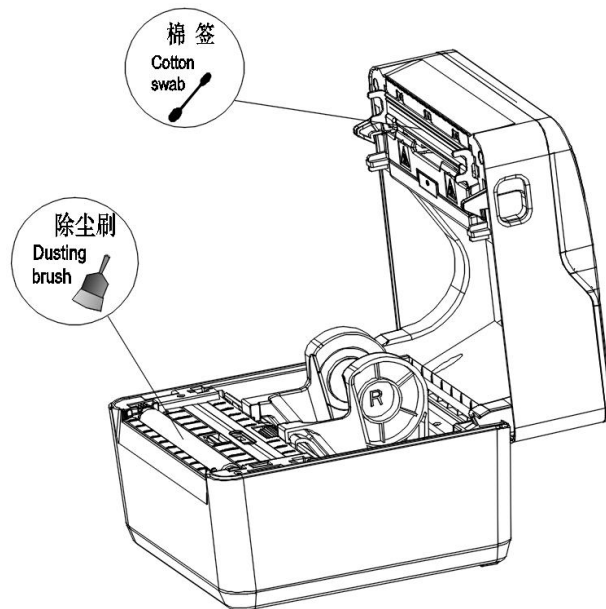

Figure 4.4
- ◆ Show as Figure 4.4:using the dusting brush to clean the paper roll
- ◆ Show as Figure 4.4, Using the cotton swab to draw the right amount of alcohol, to clean the printer core heater.